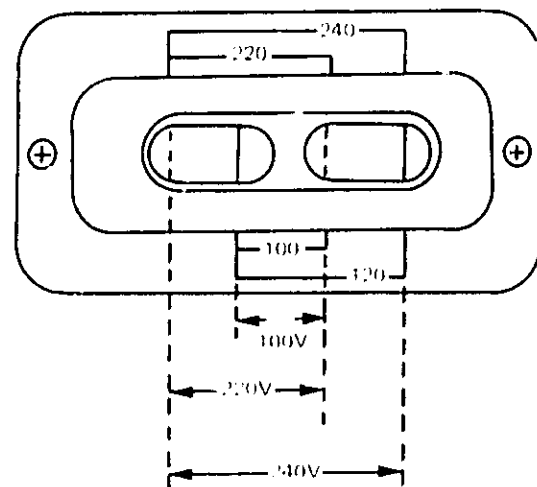

Figure 2-1. Line Voltage Selection Switch Settings
c. Through opening in bottom cover, set Line Voltage Selection Switches to proper position for input power source. Figure 2-1 shows switches set for 120 V operation.